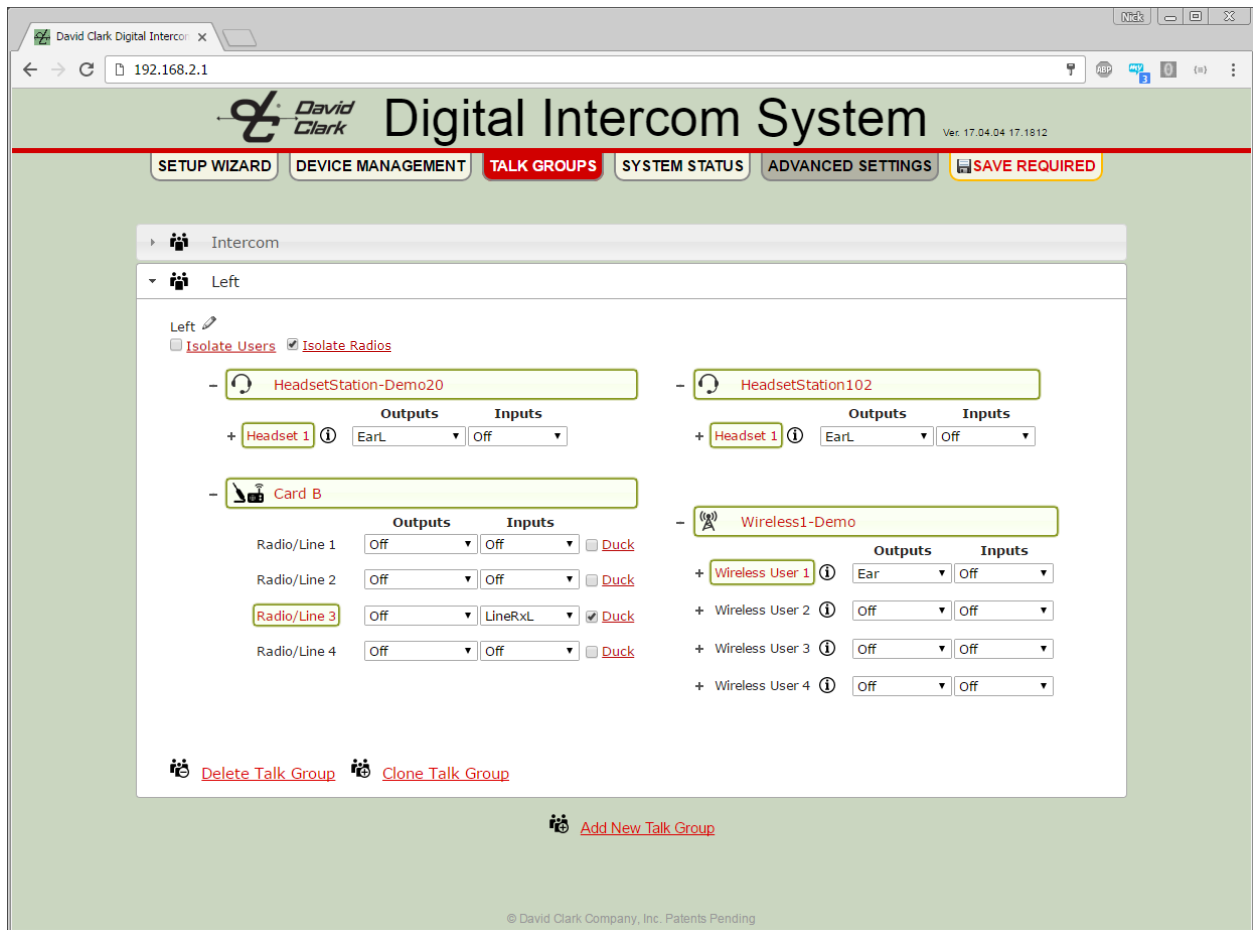

Figure 8.24 Talk Group Example 5 – Left
20. See **Figures 8.24, 8.25, 8.26, and 8.27**.